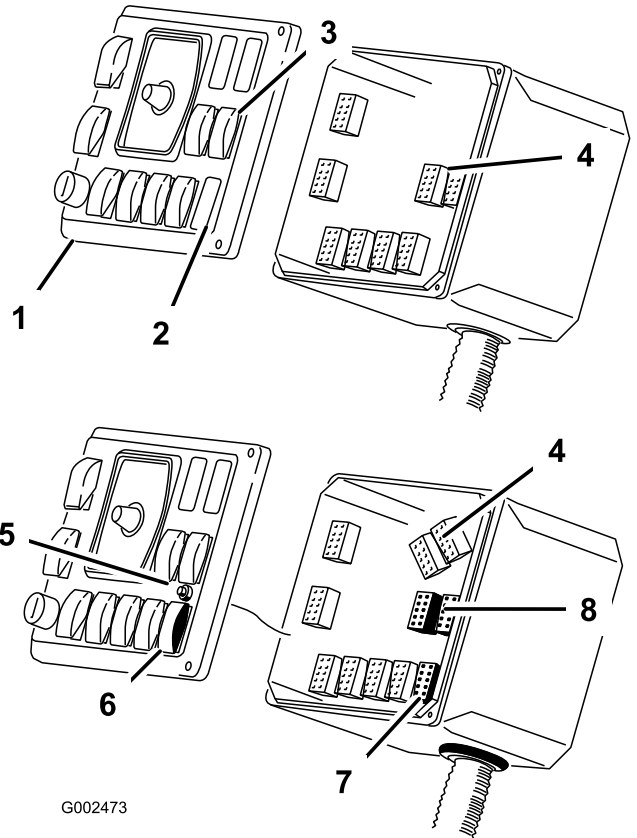

Figure 19
3. Install the indicator light through the back of the hole. Secure it to the front panel with the fasteners included (Figure 19).
4. Remove the sonic boom switch plug from the front panel and install the sonic boom rocker switch (Figure 19).
5. Locate and disconnect the plugs for the boom lift switches (Figure 19).